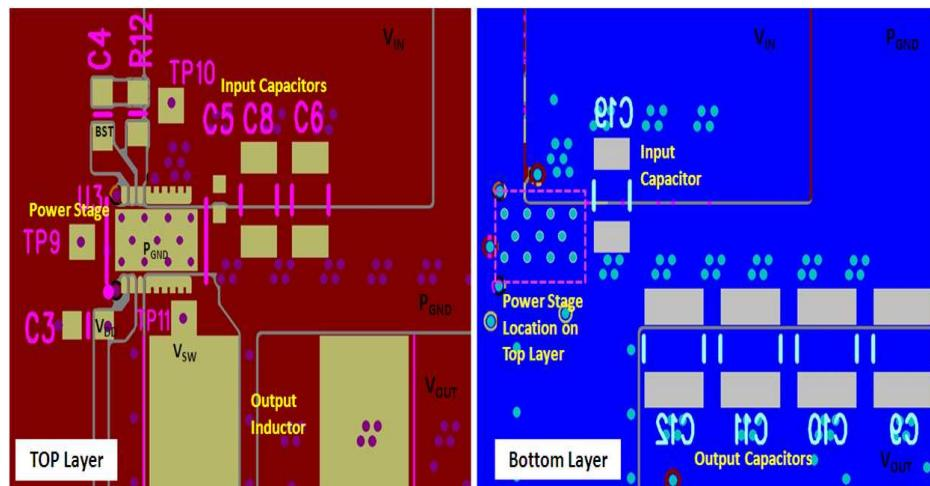

Figure 16. Recommended PCB Layout (Top Down View)
- The placement of the input capacitors relative to V_{IN} and P_{GND} pins of CSD95375Q4M device should have the highest priority during the component placement routine. It is critical to minimize these node lengths. As such, ceramic input capacitors need to be placed as close as possible to the V_{IN} and P_{GND} pins (see Figure 16). The example in Figure 16 uses 1 × 1 nF 0402 25 V and 3 × 10 μ F 1206 25 V ceramic capacitors (TDK Part # C3216X5R1C106KT or equivalent). Notice there are ceramic capacitors on both sides of the board with an appropriate amount of vias interconnecting both layers. In terms of priority of placement next to the Power Stage C5, C8 and C6, C19 should follow in order.
- Use the smallest drill size allowed in your design. The example in Figure 16 uses vias with a 10 mil drill hole and a 16 mil capture pad.